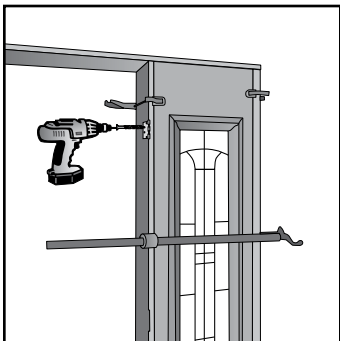

Fig. 18
- G. Anchor hinge side mull post to silight using two 2" brass screws through hinge (**Fig. 18**).